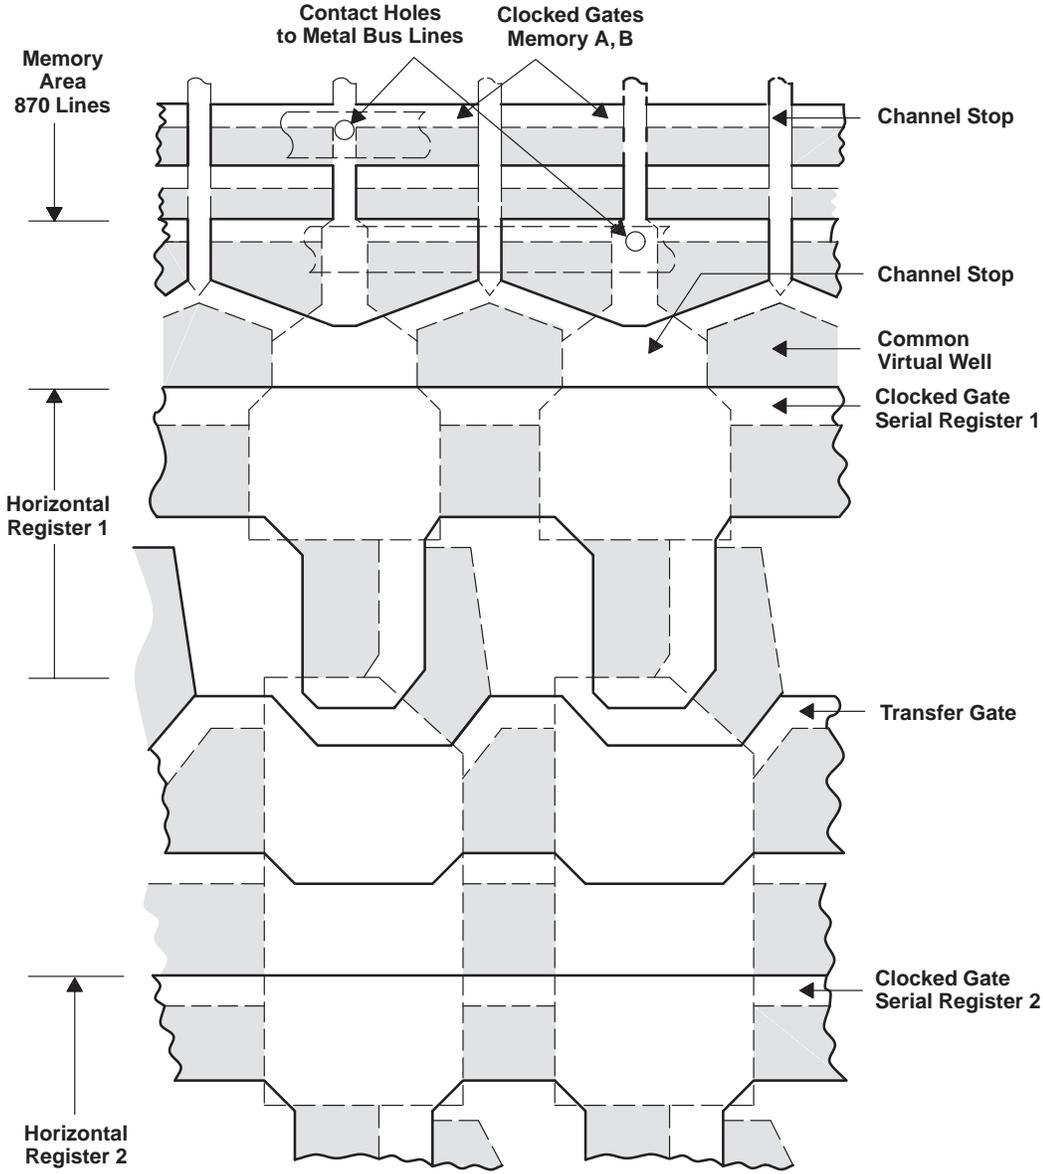
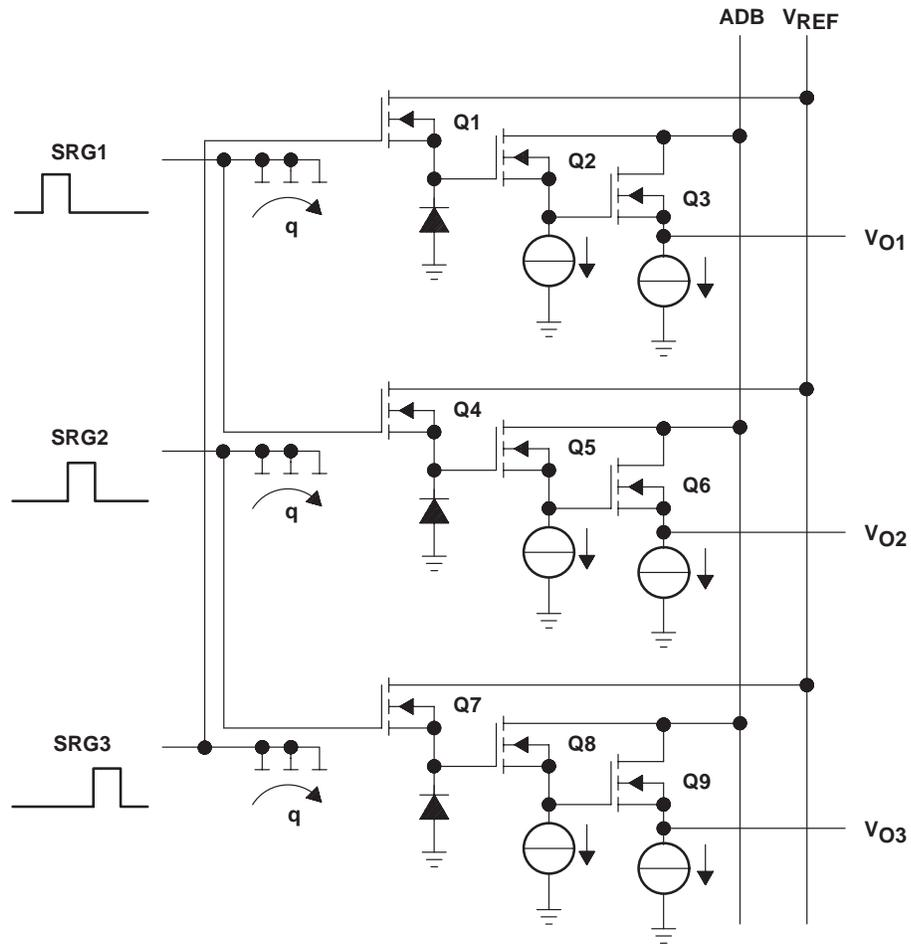
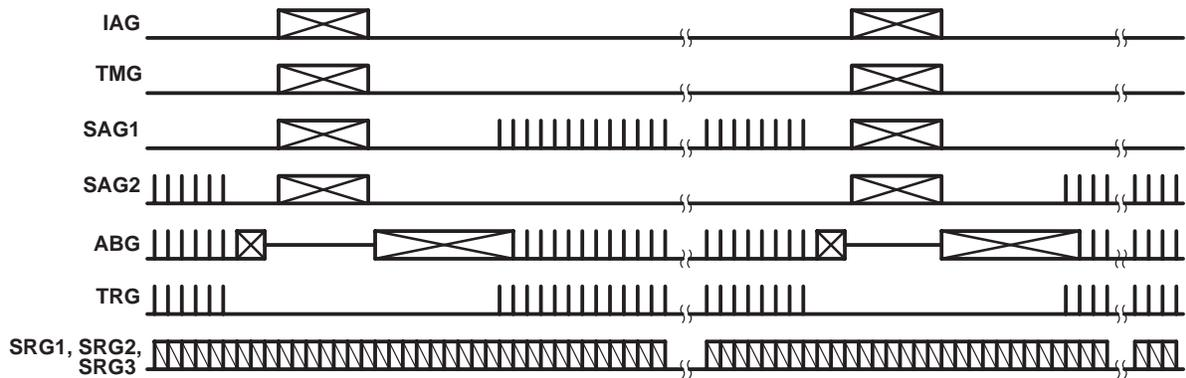

Figure 2. Layout of the Interface Region Between the Memories and the Serial Registers
Figure 3. Circuit Diagram – Charge-Detection Amplifiers
Figure 6. Vertical Timing, Normal-Light Mode
A unique multiplexer section (see Figure 1) rearranges the horizontal pixels into vertical groups of three and separates and loads the image into the two field memories. The independent addressing of each field memory provides flexibility for different modes of operation. The interdigitated layout of the memories allows each memory to share the same bank of three serial registers and associated charge-detection amplifiers (see Figure 2 and the functional block diagram). Each register and associated amplifier reads out every third column of the image area (see Figure 3). The three amplifiers are optimized dual-source followers that allow the use of off-chip double correlated-clamp sample-and-hold amplifiers for removing KTC noise.
After integration, the multiplexer rearranges two horizontal lines into vertical groups of three and separates and loads the image into the storage area. Figure 1 shows the layout of the multiplexer gate and its interface to the two field memories. Figure 2 shows the interface region between the storage area and the three serial registers. A drain is also provided to clear the image-sensing and image-storage areas of unwanted charge. Such charge can accumulate in the imager during the startup of operation or under special circumstances when nonstandard TV operation is desired. The sensor's independently addressable memories allow several different modes of sensor operation including (1) a normal-light mode, (2) a low-light mode, (3) a still mode, and (4) a progressive-scan mode. The timing for these four modes is given in Figure 6 through Figure 9. The parallel-transfer timing is shown in Figure 10.
After transfer to the serial registers (see Figure 11, which shows the horizontal timing that gives the necessary sequence of pulses for transfer from the storage area to the serial registers), the charge is converted to a signal voltage at the sense node and buffered with a dual-stage source follower. The three serial registers are typically clocked 120 degrees out of phase with each serial-gate pulse supplying a detection-node reset signal for one of the other two serial gates (see Figure 12). The readout timing, which includes the three serial pulses and the pixel-clamp pulses used in an off-chip double-correlated sampling circuit, is shown in Figure 13. The detection nodes and amplifiers are located some distance from the edge of the storage area. Twelve dummy elements are incorporated at the end of each serial register to span the distance. The location of the dummy elements, which are considered to be part of the amplifiers, is shown in the functional block diagram. A schematic of the detection node and amplifier is given in Figure 3.